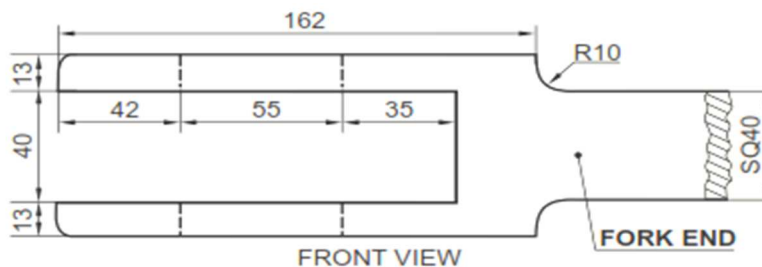

Figure 1 ; fork end
- a) The fork end in figure 1 is to be fabricated in the workshops out of a flat bar work piece of the dimension 20mm by 80mm by 200 mm length.